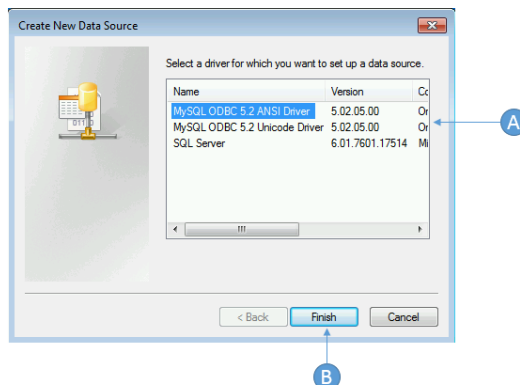

Figure 8-5 Windows Create New Data Source
To create the database, select the appropriate environment – *User DSN* or *System DSN* and press the **Add** button (C). This opens the *Create New Data Source* dialog (Figure 8-5).